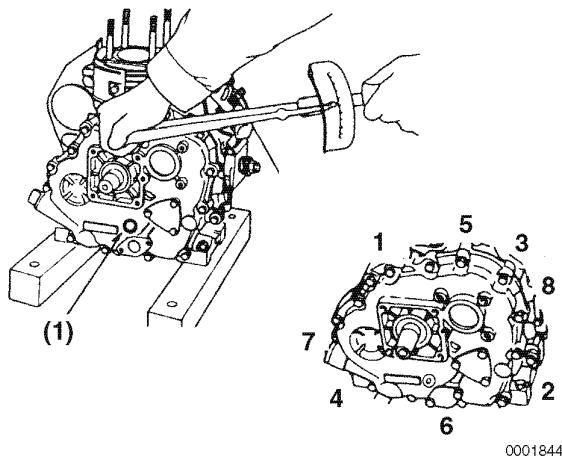

Figure 8-102
5. Install the crankcase cover (**Figure 8-102, (1)**) while pushing down lightly on the crankcase cover. slowly turn the flywheel to allow the governor / oil pump drive gear to mesh with the camshaft gear. Maintain the light pressure while “wiggling” the cover slightly to align the balancer shaft bearing and the camshaft bearing with their respective pockets in the underside of the cover until the cover drops into place.
6. Tighten the crankcase cover bolts to the specified torque in two stages (1/2 then full torque) in the sequence shown (**Figure 8-102**). *See Special Torque Specifications on page 8-16.*
- Tighten the stiffener bolts after the bolts on the crankcase perimeter are tightened (**Figure 8-102**). See *Special Torque Specifications* on page 8-16.